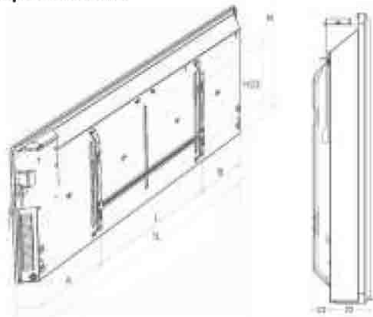

Fig. 1
Overall dimensions of the convector TEC.PF2 ML series as per Fig.1 are given in Table 2.
Overall dimensions of the convector TEC.PS1 ML series as per Fig.1 are given in Table 3.
3. In accordance with Fig. 1, 4 and table 2, 3 determine the place of convector's installation observing minimum distances from objects and minimum distance from the floor.